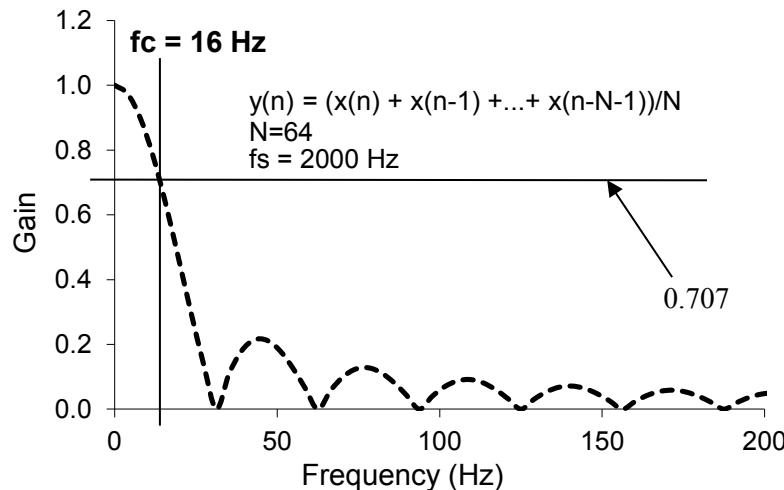

Figure 5. Frequency response of averaging filter with N=64.
If you wish to learn more about the simple averaging filter, open the spreadsheet **FIR\_Digital\_LowPassFilter.xls** (you should have this in your folder when you opened up the zip file). You can change the sampling rate (fs) and filter size (N) and visualize the frequency and step responses. The two parameters you can adjust are highlighted in yellow. If the sampling rate is 2000 Hz, and the size N is 64, then the filter has a cutoff frequency (fc) of 16 Hz, see Figure 5.